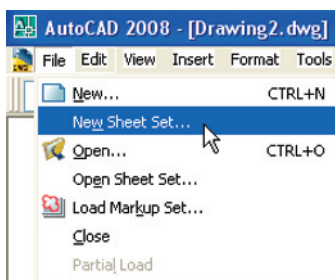
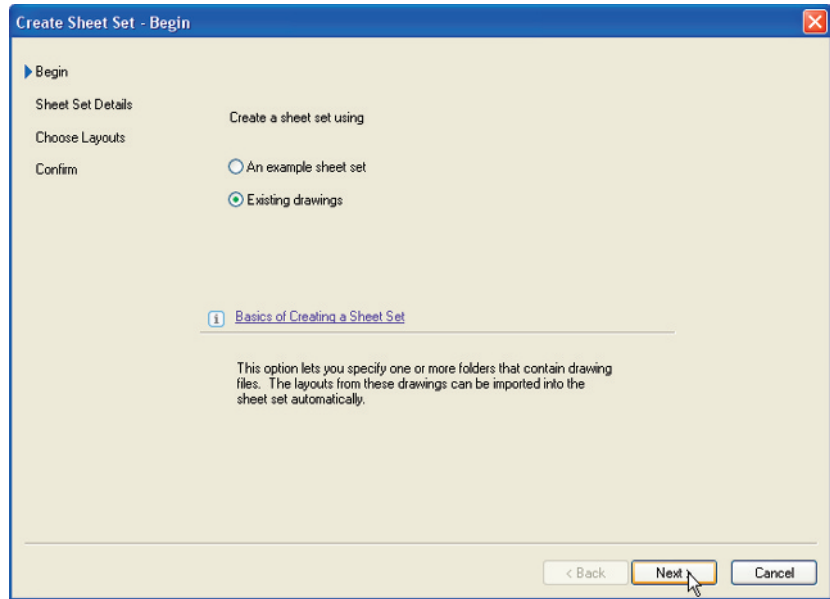
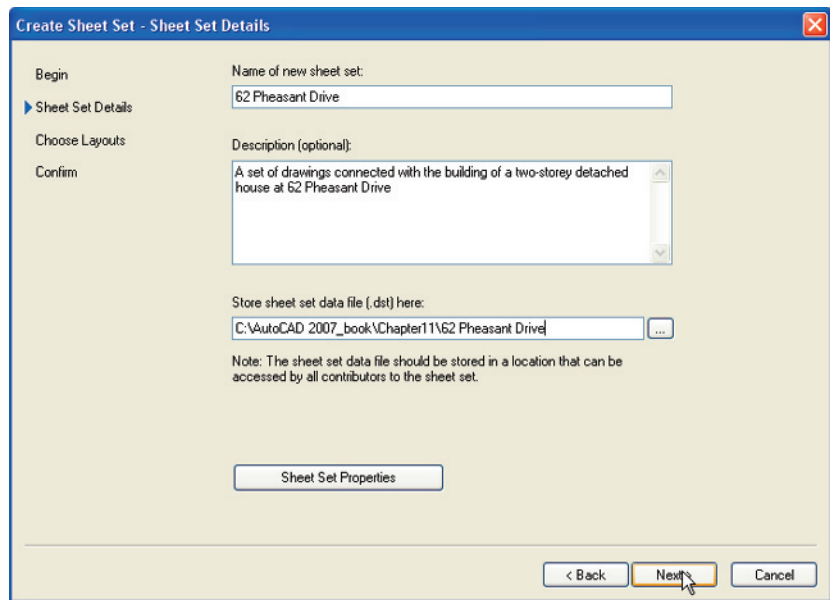

Fig. 11.3 Selecting **New Sheet Set...** from the **File** drop-down menu
Fig. 11.4 The first of the **Create Sheet Set** dialogs – **Begin**
Fig. 11.5 The **Sheet Set Details** dialog
3. Click **New Sheet Set** in the **File** drop-down menu (Fig. 11.3). The first of a series of **Create Sheet Set** dialogs appears – the **Begin** dialog (Fig. 11.4). Click the radio button next to **Existing drawings**, followed by a click on the **Next** button and the next dialog **Sheet Set Details** appears (Fig. 11.5).
4. Enter details as shown in the dialog in Fig. 11.5. Then click the **Next** button to bring the **Choose Layouts** dialog to screen (Fig. 11.6).